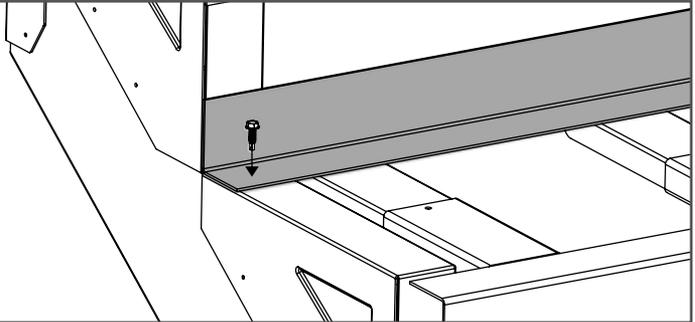

Fig. 11
4. Using a Rubber Mallet, hammer the back of the bottom lip of the stair tray until flush with the back face of the bottom Stair Brackets. As shown in Fig. 11 & 12.